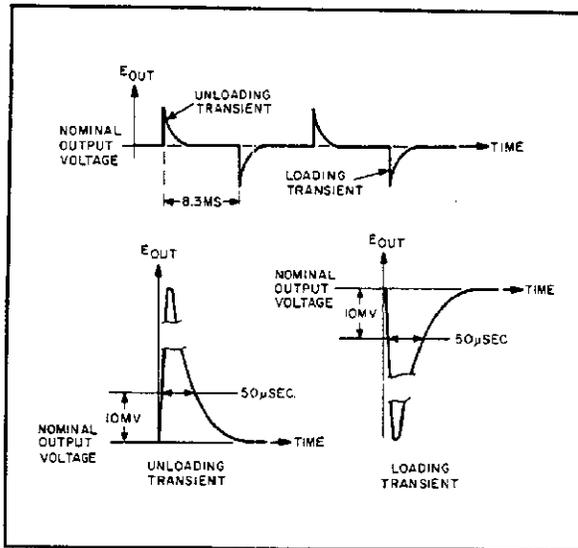

Figure 5-5. Load Transient Recovery Time Waveforms
k. Starting from the major graticule division representing time zero, count to the right 50µsec and vertically 10mV. Recovery should be within these tolerances as illustrated in Figure 5-5.